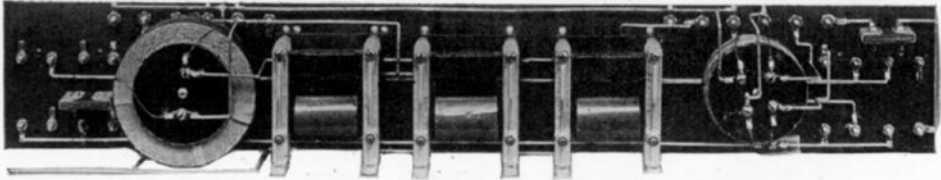

Fig. 1. In the rear view you can see the arrangement of the parts under the tube panels
17. Put $\frac{1}{2}$ -in. 6-32 R. H. screws through the four outside holes in the disc having five holes. Put two lugs under each screw head. This arrangement can be seen in Fig. 1. Put a $1\frac{1}{2}$ -in. 6-32 R. H. screw through the top and bottom discs and fasten the screw in place, so as to hold the discs and clamp the coil unit, with a 6-32 nut underneath. If you have trouble holding